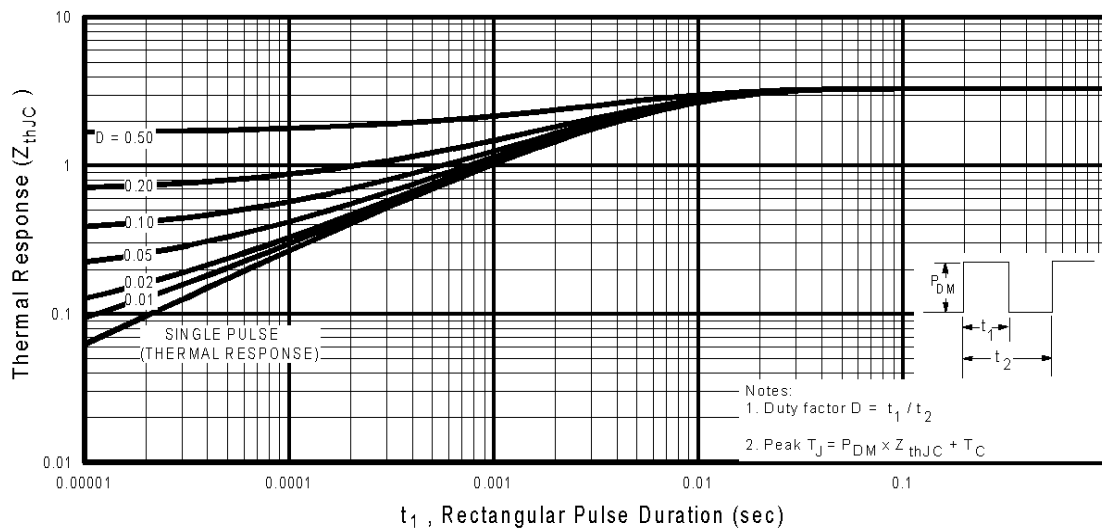

Fig 11. Maximum Effective Transient Thermal Impedance, Junction-to-Case
- ① Repetitive rating; pulse width limited by max. junction temperature. (See fig. 11)
- ② Starting $T_J = 25^\circ\text{C}$, $L = 3.7\text{mH}$